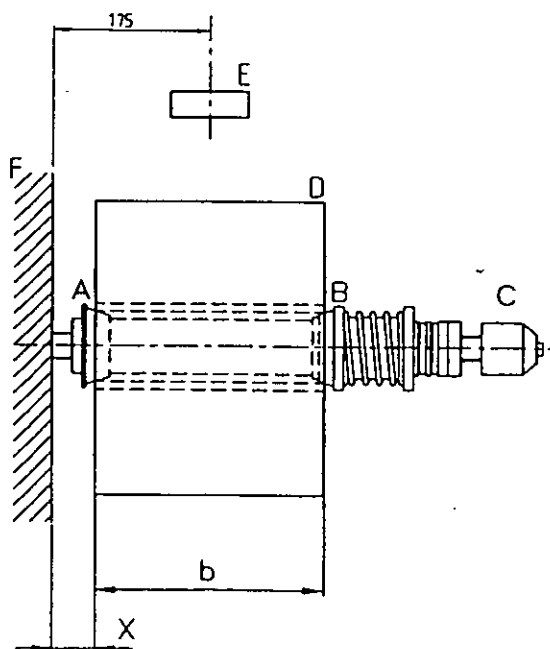

Fig. 3
See Fig 3:
The hub (A) is attached as shown on Fig. 3 along with pointed screw. After that the wrapping material and the front hub (B) can be mounted.